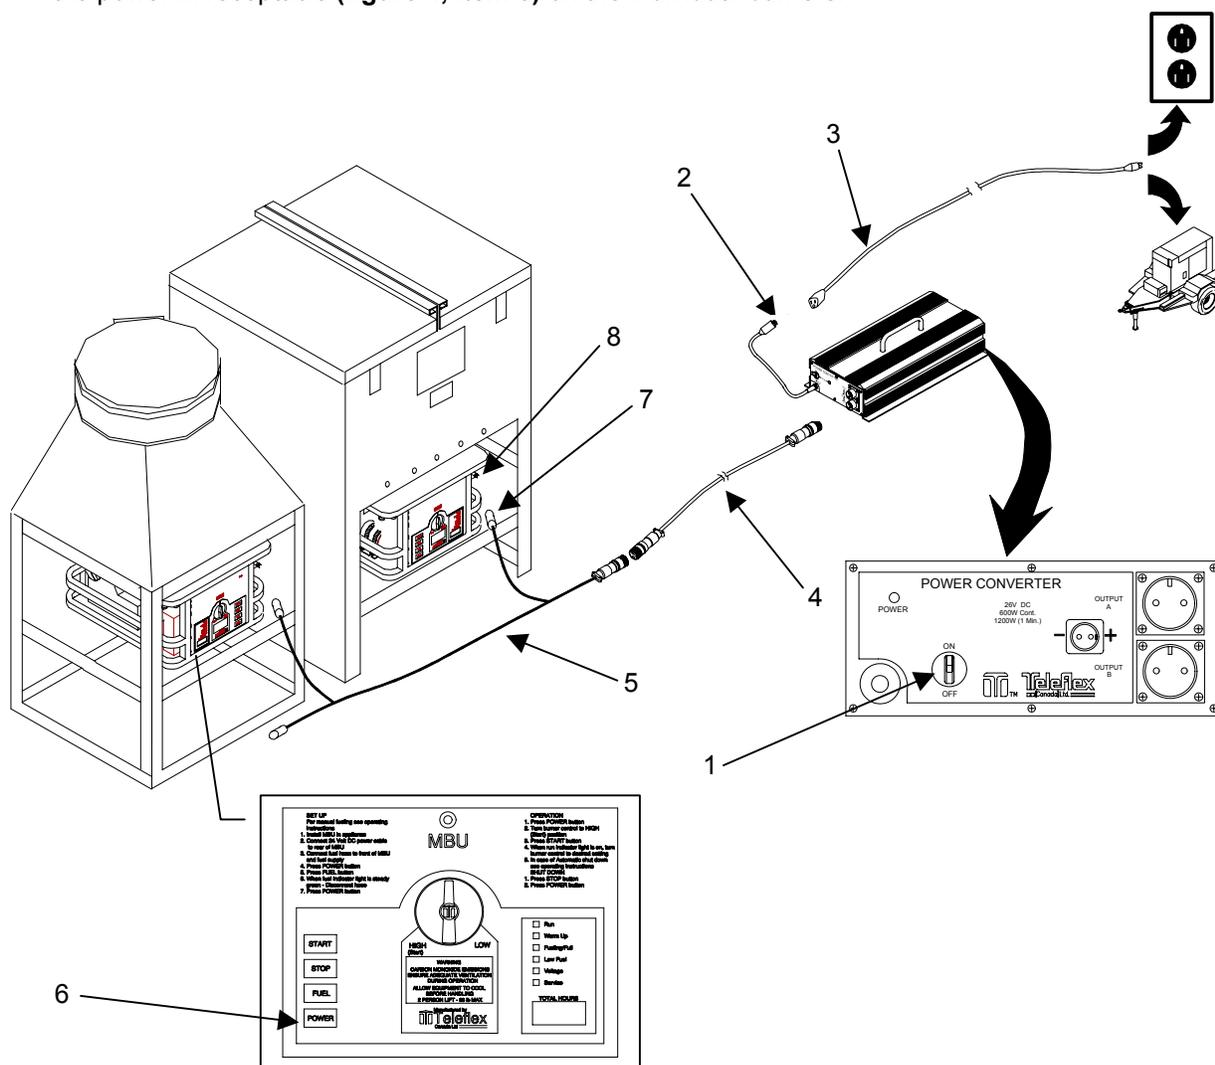

Figure 4. Connect Power Cables with 110VAC Power for Systems Other Than MKT
1. With the power converter input switch (**figure 4, item 1**) OFF, connect the power converter power cord (**figure 4, item 2**) to the designated power source using the 50-ft (110VAC) extension cord (**figure 4, item 3**) provided.
2. Connect the 25-ft (24VDC) power cable extension (**figure 4, item 4**) (if required) to the power converter (**figure 4, item 2**).
3. Connect the 2- or 4-Branch cables (24VDC) (**figure 4, item 5**) to the other end of the 25-ft (24VDC) extension (**figure 4, item 4**) (if used).
4. With MBU Power switches (**figure 4, item 6**) OFF, connect the cable branches (**figure 4, item 7**) to the power-in receptacle (**figure 4, item 8**) on the individual burners.